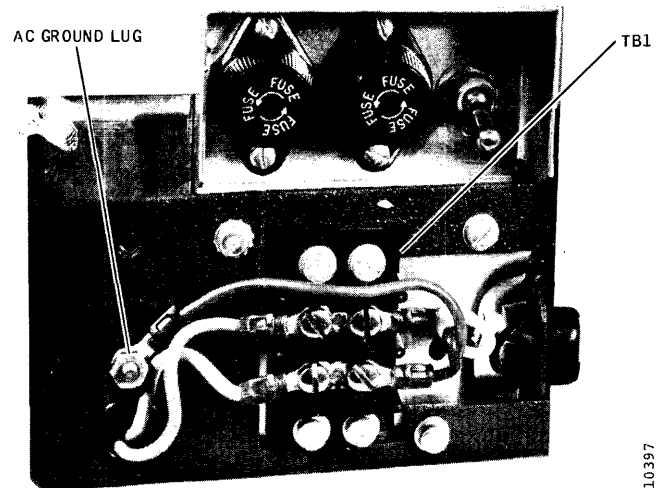

Figure 3-3. Power Cable Terminal Board TB1
5. Uncoil the unit power cable, remove the cover from power cable terminal board TB1, and make sure that all three wires are connected as shown in Figure 3-3 and that the terminals are tight. Reinstall the cover.